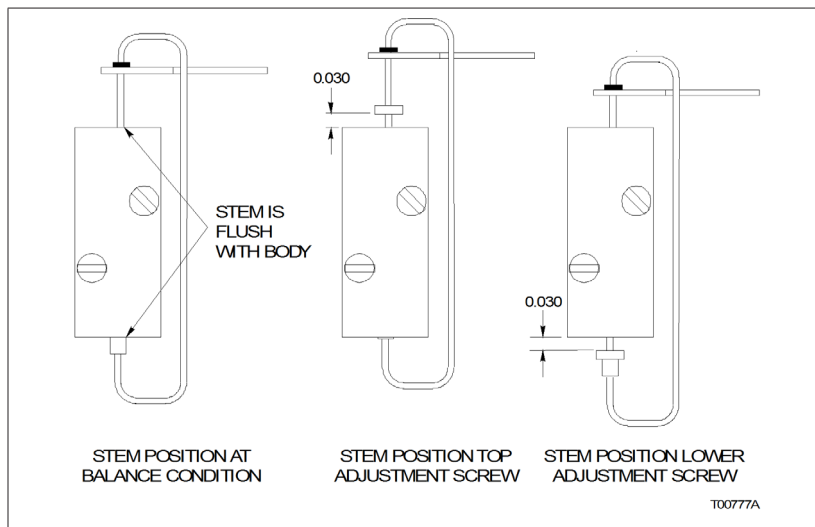
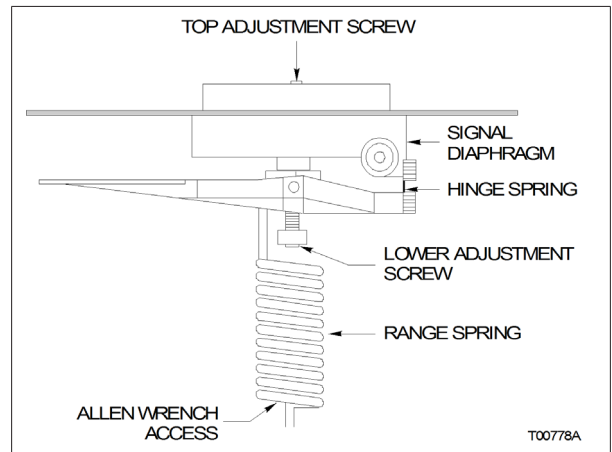

Figure 8-3. Pilot Valve Measurement for Maximum Speed
Figure 8-4. Stroke Adjustment Screws
When the valve stem is in the balance position, as shown in Figure 8-3, the stem is flush with both ends of the valve body. There are two adjustment screws to adjust. Use the following procedure to check and adjust the travel of the valve stem:
4. Use the long $\frac{3}{32}$ -inch Allen wrench, adjust the top adjustment screw (Fig. 8-4) appropriately until the measurement matches the value shown in Figure 8-3. Figure 8-3 also shows the way the measurement is taken.
6. Use the long $\frac{3}{32}$ -inch Allen wrench to adjust the lower stroke adjustment screw (Fig. 8-4). Adjust the screw until the measurement matches the value shown in Figure 8-3.